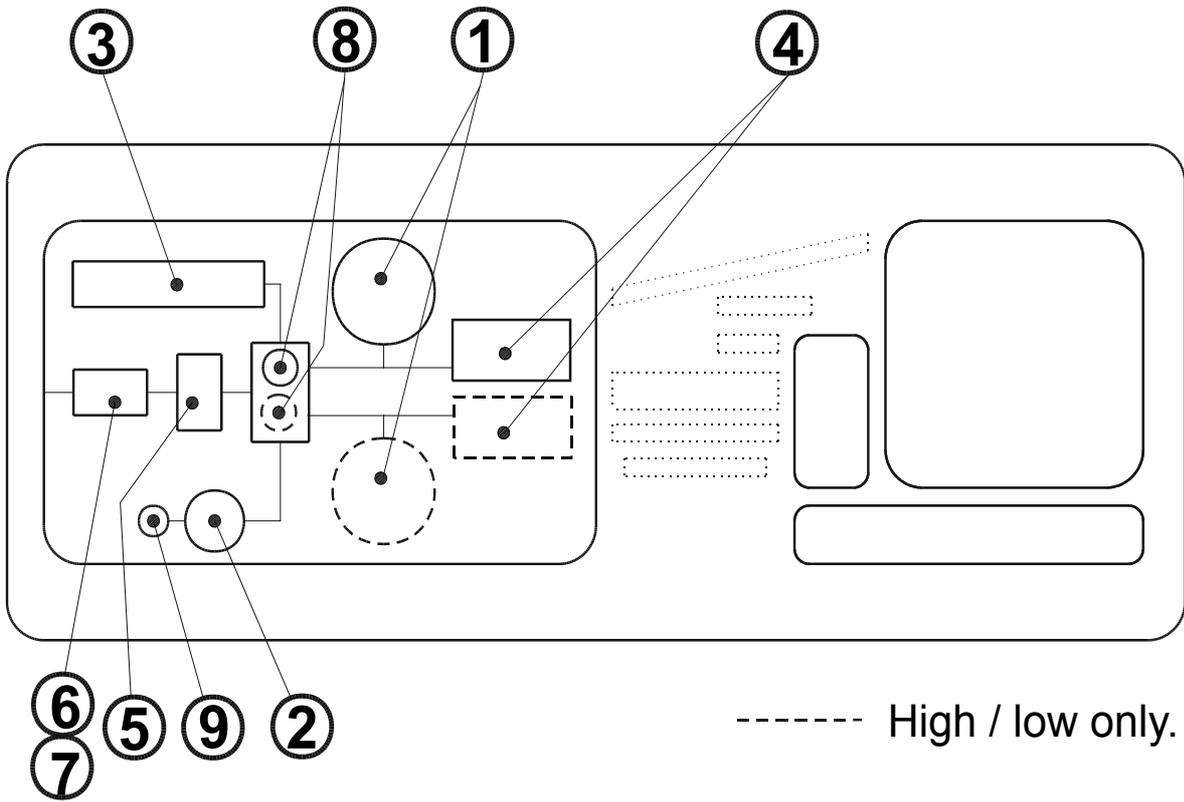

Figure 15.2 – Control Panel Fascia
15.2 Control Panel Spares (refer to Fig. 15.2)